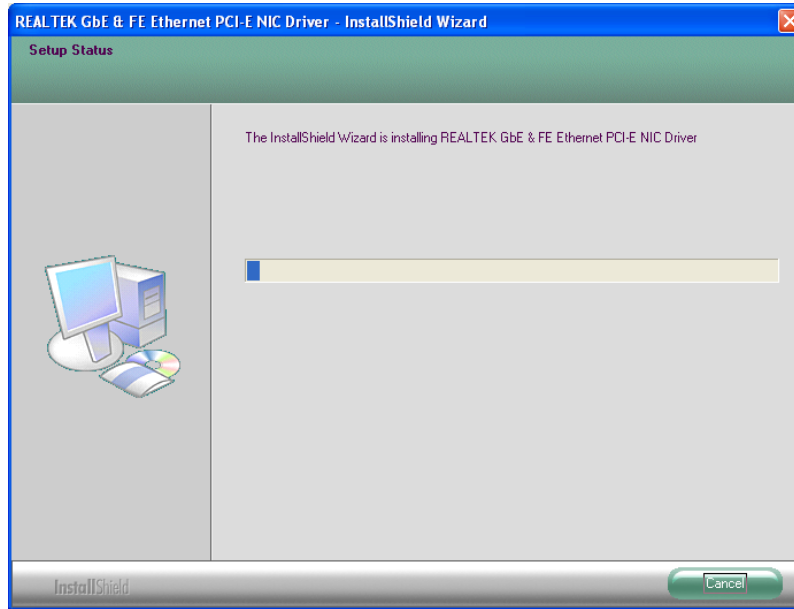

Figure 5-16: LAN Driver Installation
Step 10: The installation progress can be monitored in the progress bar shown in **Figure 5-16**.